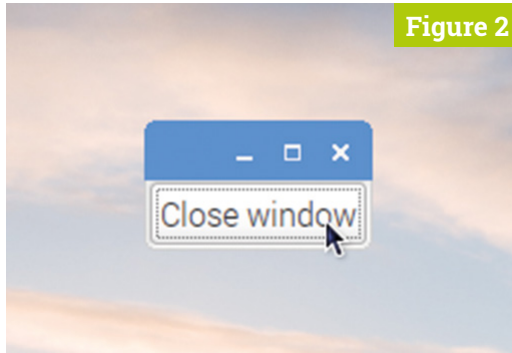

Figure 2
► **Figure 2** This time, when you click on the button, the window will close
This still isn’t perfect, though – if we click the X at the top right, the window closes (**Figure 2**) but the program doesn’t exit. Let’s fix that.